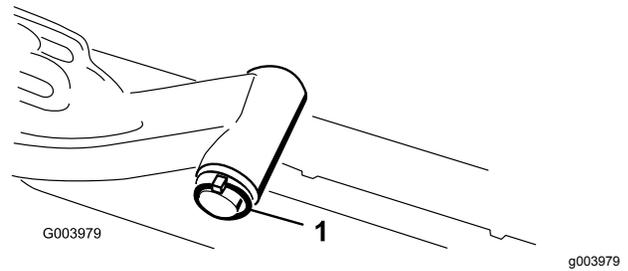

**Figure 11**
8. For the front cutting units, slide a cutting unit under the lift arm while inserting the carrier-frame shaft up into the lift-arm-pivot yoke (Figure 11).
B. Insert the lift-arm yoke onto the carrier-frame shaft (Figure 11).